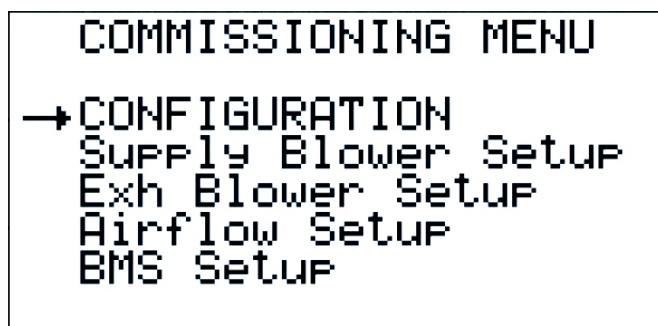

Figure 18
2.3.3.1 Commissioning (Figure 18)